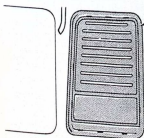

FIGURE 1
1. Remove the large knockout which is located to the right of center of the instrument board. Cut the webs at twelve places with a VERY SHARP cold chisel then knock out the panel from the motor compartment with a rubber hammer. If the edges of the opening are distorted they should be straightened with pliers. See figure 1. Remove the Mortex silencer material as shown in figure 1.